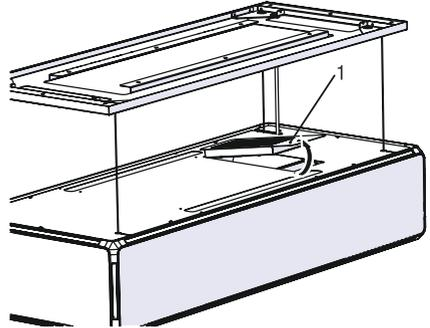

Fig. 38
1. ➤ Pull the carbon filter on the housing towards the direction of the arrow and remove it (Fig. 38).